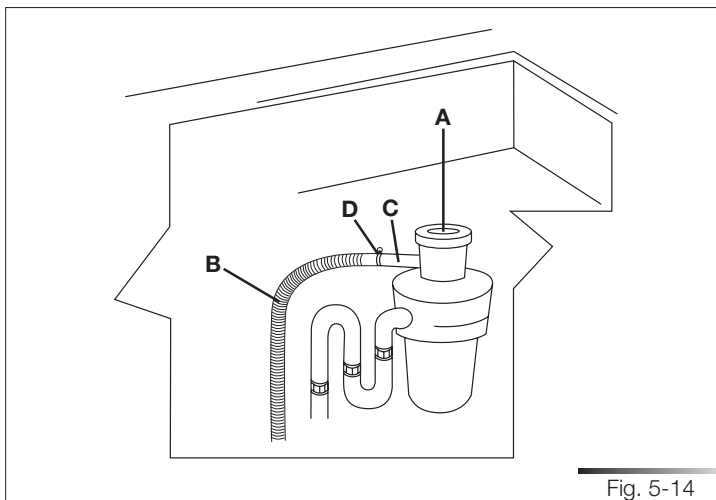

Fig. 5-14
1. Remove the cover of the waste disposal unit (ref. A fig. 5-14).
2. Connect the dishwasher drain hose (ref. B fig. 5-14) to the waste disposal unit inlet (ref. C fig. 5-14), using the wide spring clamp (ref. D fig. 5-14).